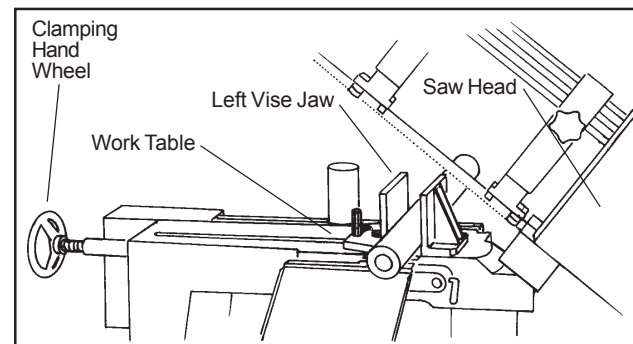
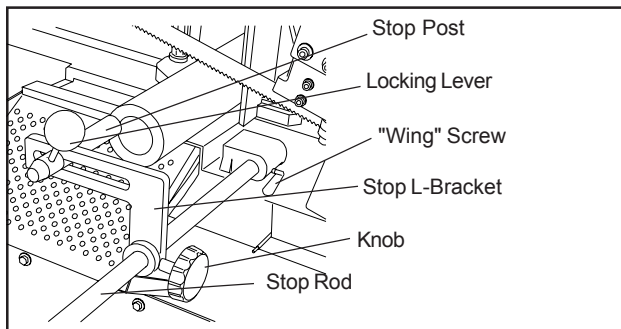

Figure 5: Securing workpiece
Figure 8: Work stop
1. Raise the saw head (refer to Figure 5).
1. Referring to Figure 5, loosen the angle locking screw and the pivot screw on the left vise jaw.
Figure 5: Securing workpiece. The work stop is used to set up the saw for making multiple cuts of the same length (see figure 8). Install and adjust the work stop as follows: